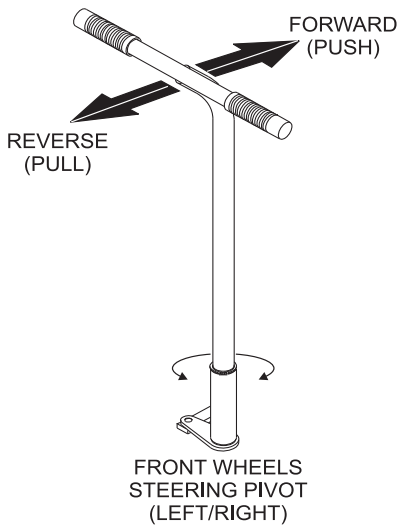

Figure 6. T-Handle (Directional Control)
- Using the T-handle (Figure 6) place the GloBug on a **firm level surface** so that it will not slide or turn over.